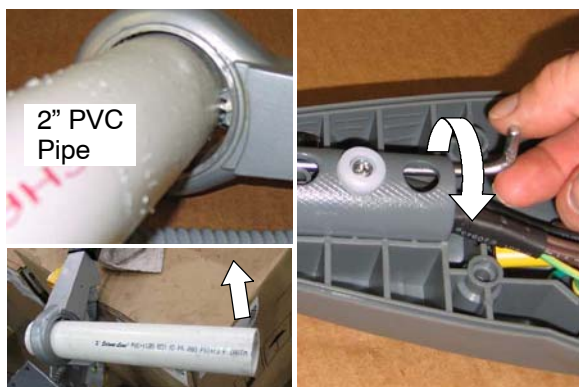

Fig. 8
- Insert a piece of 2 inch PVC pipe, 12-14 inches in length, into the gear opening to hold the plunger inward. Turn the rod counter-clockwise several rotations until rod unthreads from gear plunger (Figure 8). **NOTE:** Use the PVC pipe as a lever to push plunger further inward.